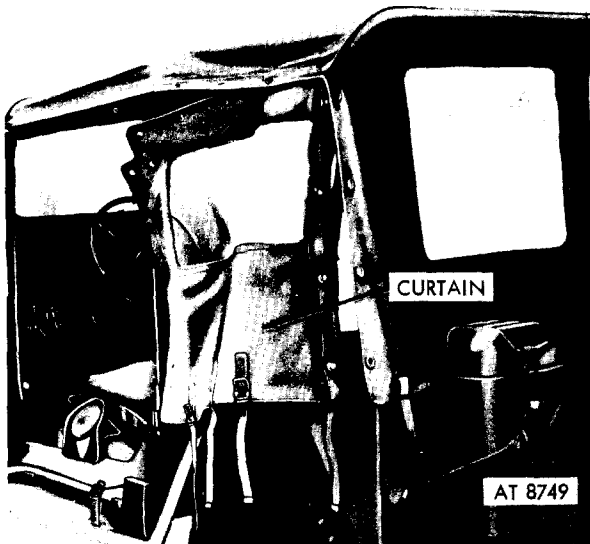

Figure 4-14. Installing left side curtain.
*j.* Select the left side curtain, attach it to canvas top by button fasteners, as illustrated in figure 4-14, starting at the back top corner, working forward, and then down the back.